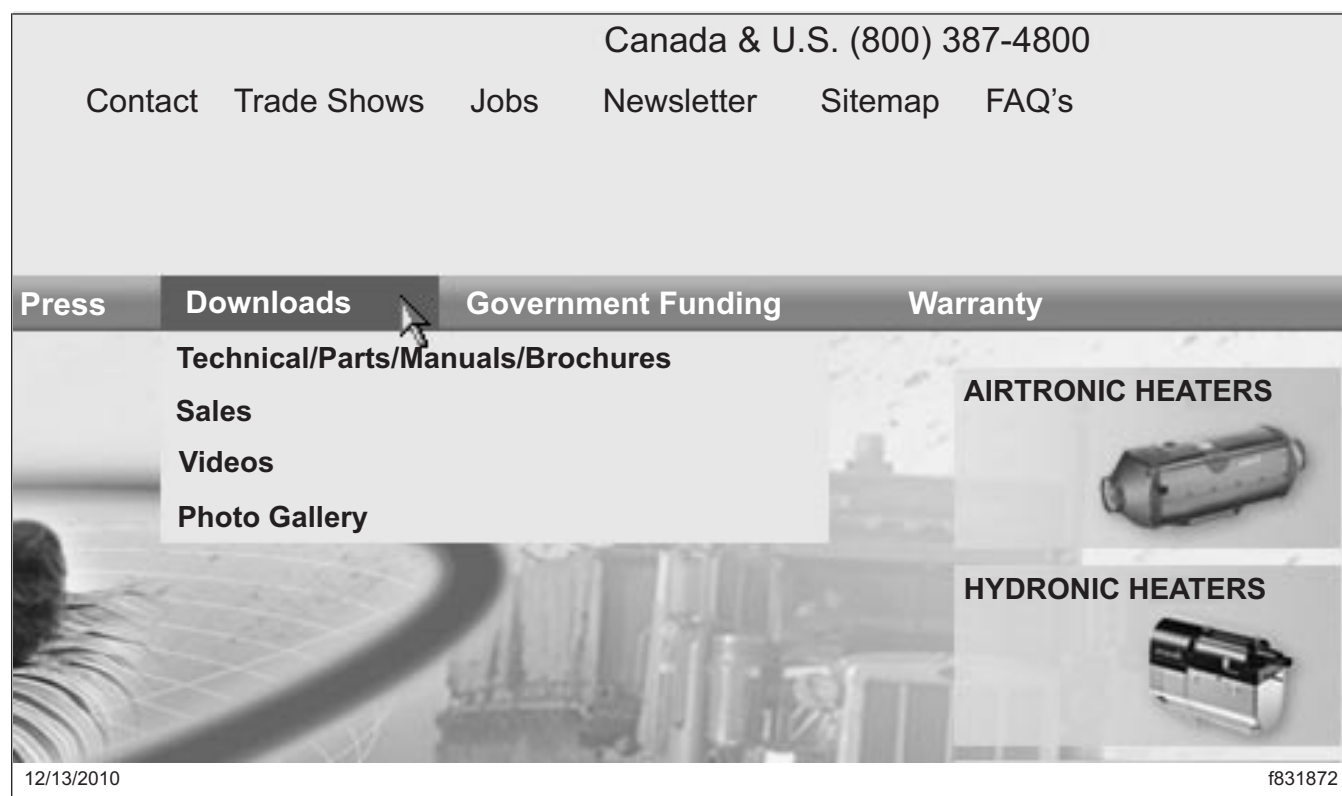

Fig. 1, Espar Home Page
1. Go to www.Espar.com. See Fig. 1.